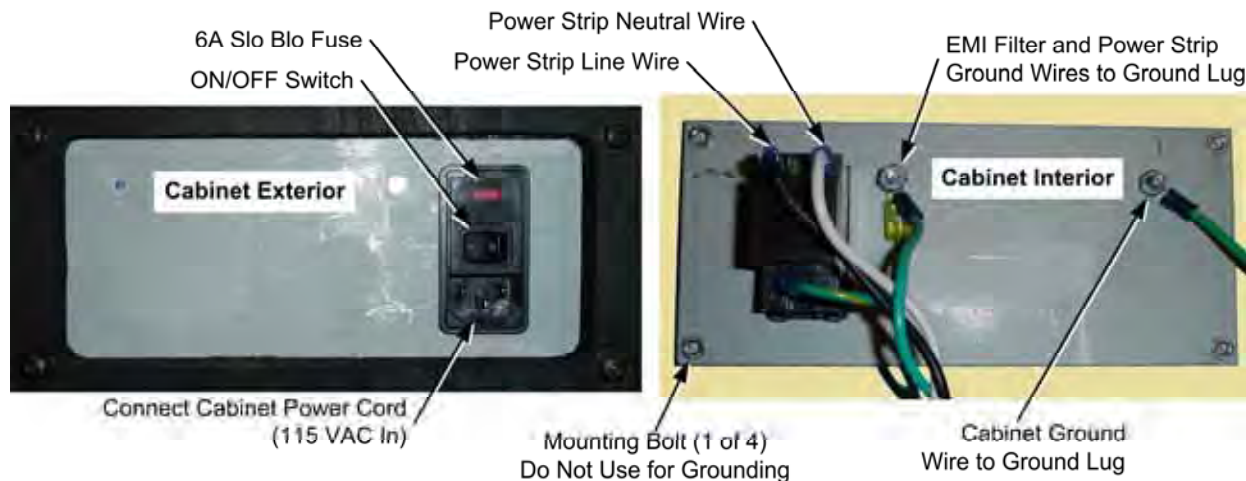

Figure 32. AC Power Plate (Shown Without Labels)
The AC power strip provides power to all of the components in the cabinet. If the cabinet has no power, check the 6A Slo Blo fuse in the power plate (see Figure 32. AC Power Plate (Shown Without Labels)) and replace if blown. Perform the following steps to replace the power strip:
3. Disconnect the power strip from the AC power plate terminals shown in Figure 32.